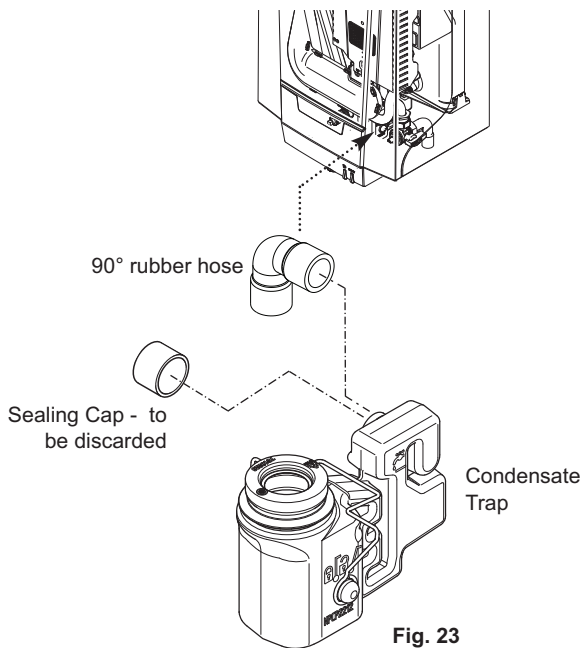

Fig. 23
5.4.5 Connecting the Condensate Drain (Fig. 23)